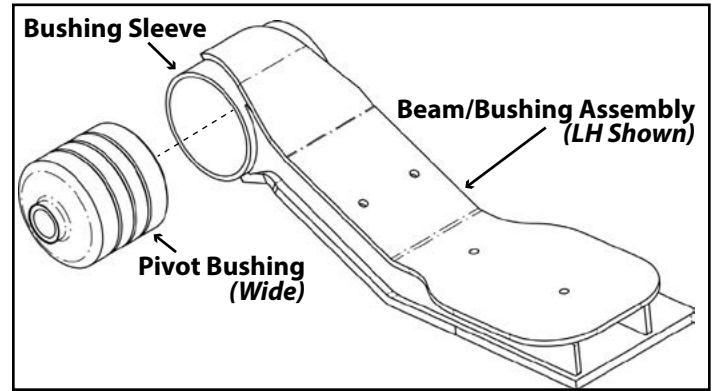

Figure 8.
1. Remove bushing from load beam/sleeve (Fig 8).